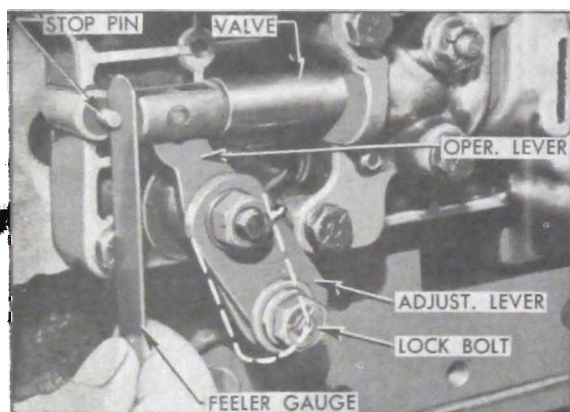

Figure 5-99—Control Valve Linkage Adjustments
9. Push the shift control valve away from the stop pin *just enough to remove play from valve linkage*, then check clearance between stop pin and end of valve, using feeler gauge. Clearance should be .030" to .040". See figure 5-99.
10. If clearance is not correct, loosen lock bolt and shift the adjusting lever on the valve lower operating lever as required to obtain specified clearance. Tighten bolt and nut on levers, making sure that adjustment does not change. See figure 5-99.